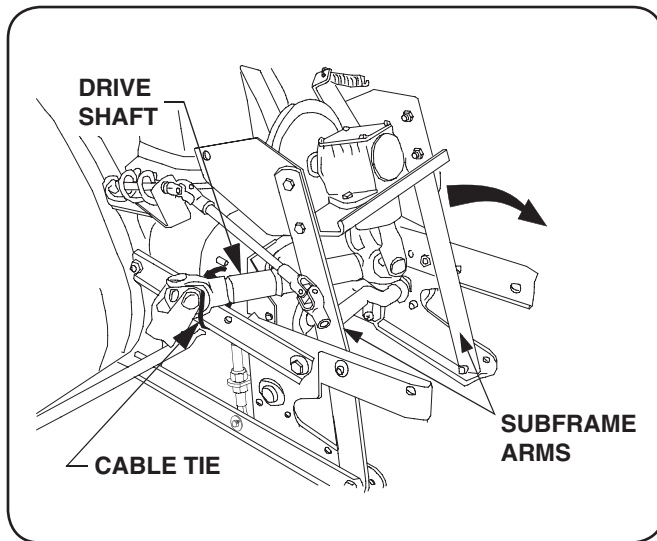

Figure 4-1
1. Cut the cable tie(s) securing the drive shaft to the snow thrower sub-frame and carefully unfold the sub-frame arms. See Figure 4-1.